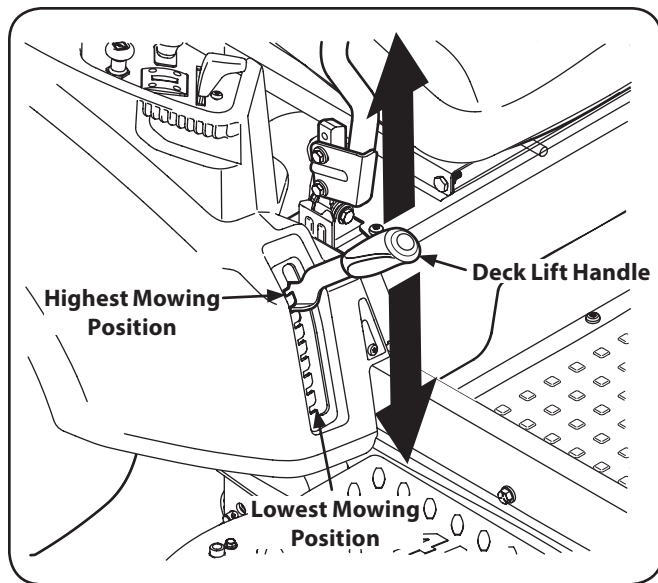

Figure 7-3
- Using the deck lift handle, raise the deck to the position that provides the most horizontal run of the belt between the deck idler pulleys and the PTO pulley on the bottom of the engine. See Figure 7-3.
- Lower the deck into the lowest position using the deck lift handle. See Figure 7-3.
1. Place the deck lift handle in the highest mowing position See Figure 7-3.